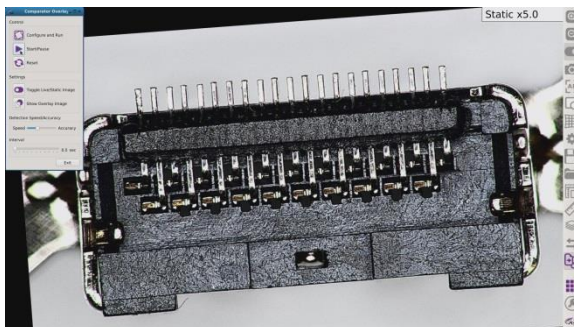

Fig. 40c Golden Sample Skewed
**7.** Click the "**Configure and Run**" button and the app will automatically adjust any misalignment to allow for accurate comparison (Fig. 40c and 40d). The speed of the comparison can be adjusted from the default of 0.5 sec to 3 sec via the Interval Slider.